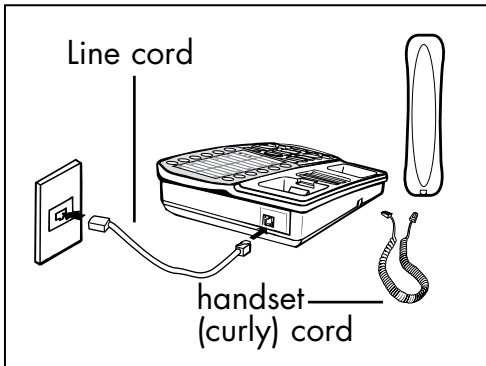

Figure 4 - Connecting the Components
1. Connect the telephone line cord and the handset cord to the telephone as shown in Figure 4.